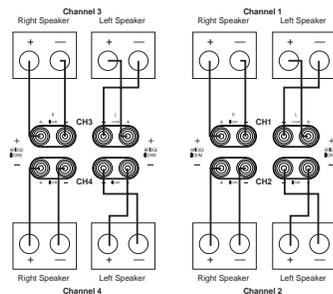

Figure 1
This is the standard configuration, and it is the way the unit is shipped from the factory. If you wish to have one input feed sent to all four amplifier channel pairs, leave the Amplifier Mode Switches as they are and connect the audio source to the **Main Input 1**. For this configuration, the speakers should be connected as shown in Figure 1, with each channel connected to the appropriate terminals **2/3/4/5**.
- Connect the source that is to be fed to three speakers to the **Main Amp Input Jacks 11**. The speakers that are to receive this signal should be connected to the **Channel 1 Speaker Output Terminals 4**, the **Channel 2 Speaker Output Terminals 5** and the **Channel 4 Speaker Output Terminals 3** using the standard speaker wiring markings on the rear panel, as shown in Figure 1.
- Connect the speaker pair that will receive the separate input feed to the **Channel 3 Speaker Terminals 2** using the normal wiring connections and markings as shown in Figure 1.